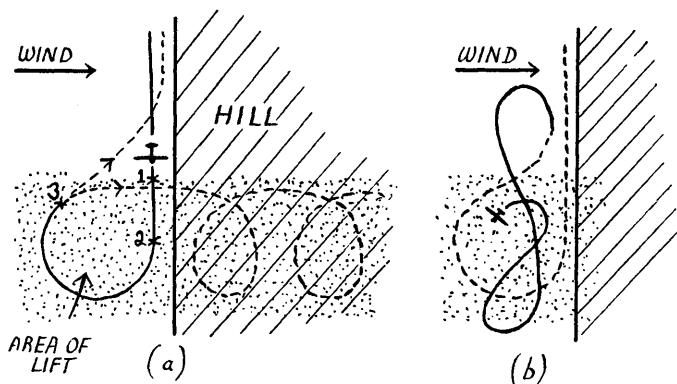

FIG. 15. Thermals from the hill
Fig. 15 (a) shows a thermal entered at the point (1) and the turn started at (2). Make your turn as usual, away from the hill, until you get to the point (3). At this point you have to make up your mind whether to go on round the circle or to fly back along the hill. If you are well above the hill, and the lift is showing no signs of reducing, continue the turn and make a 'thermal circle'.
However, there is an intermediate plan possible from the point (3) onwards. This is simply to make 'S-turns' in the area of the best lift. Turn straight back to where you think the lift is, and if the thermal is large you may be able to make two or three figures of eight in it. If you let these turns gradually get you farther upwind from the hill, and the lift continues, then you will be in a very safe position to start experimenting with circles. (See Fig. 15 (b).)